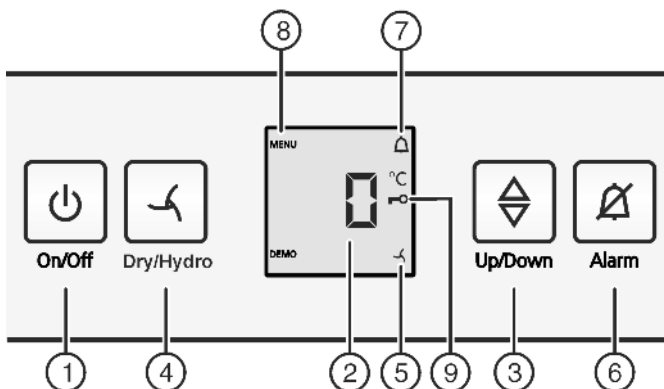

Fig. 2
- ▶ Press On/Off button Fig. 2 (1).
- ▶ To activate setting mode: press the Dry/Hydro button Fig. 2 (4) for approx. 6 seconds.
- ▷ The menu symbol Fig. 2 (8) shines.
- ▶ Briefly press the Dry/Hydro button Fig. 2 (4) to confirm.
- ▶ Briefly press the Dry/Hydro button Fig. 2 (4) to activate the child lock.
- ▷ The child lock symbol Fig. 2 (9) shines. **c** flashes in the display.
- ▶ Briefly press the Dry/Hydro button Fig. 2 (4) to deactivate the child lock.
- ▷ The child lock symbol Fig. 2 (9) goes out. **c** flashes in the display.
- ▶ To deactivate the setting mode: Press the On/Off button Fig. 2 (1).
- ▶ Press alarm button *Fig. 2 (6)*.